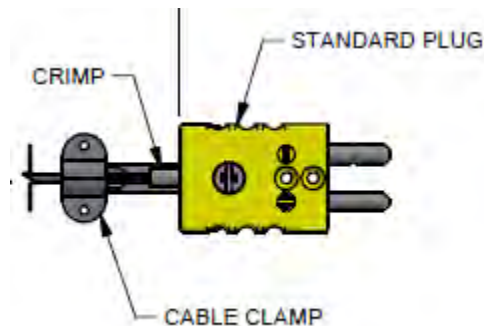

Figure 10: Thermocouple Connector
- a. Locate the yellow thermocouple connector (Figure 10) near the Control Cabinet and pull to unplug – TExxx.